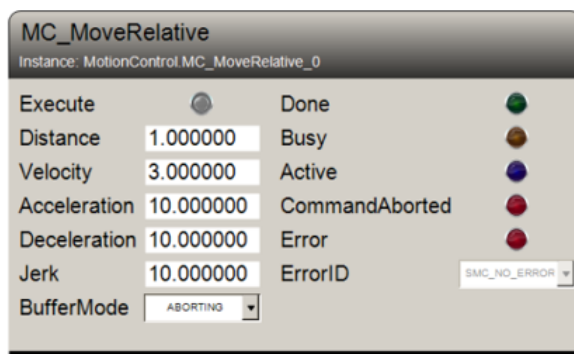

Figure 3.10: Example of relative motion setting for the servomotor.
- In the **MC_MoveRelative** template, set the variables related to the motion (**Distance**, **Velocity**, **Acceleration**, **Deceleration** and **Jerk**), as shown in Figure 3.10. After that, click the **Execute** button to start the motion.